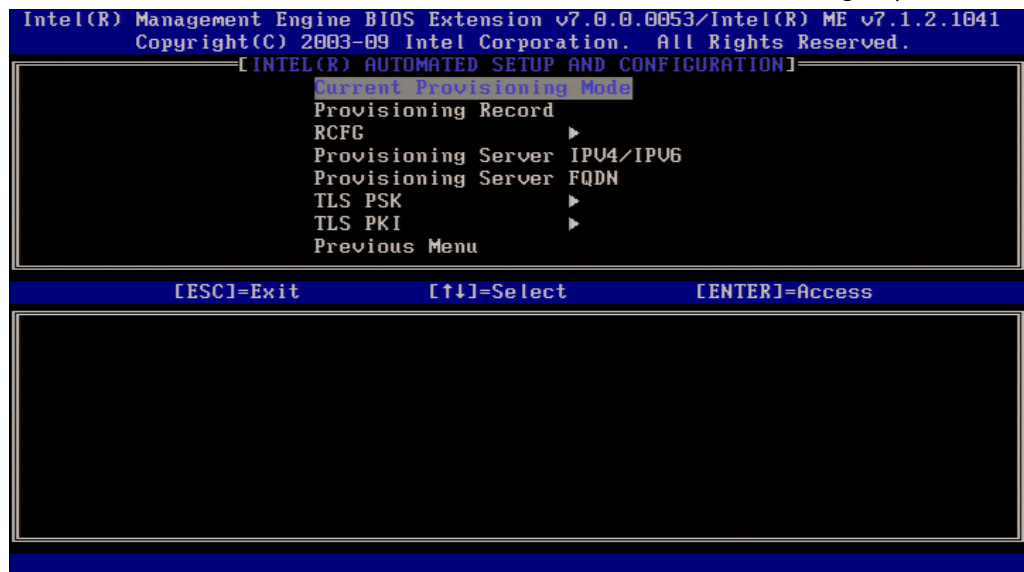

Figure 26. Intel Automated Setup and Configuration Screen
17. Select **Remote Setup and Configuration**. The Intel Automated Setup and Configuration Screen (Figure 26) is where the Enterprise mode provisioning data is entered. The submenu selections are described in the following steps.